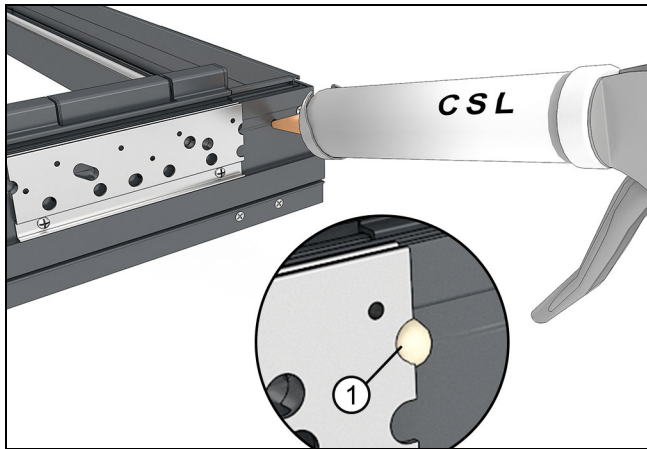

Figure 22 CSL 343 sealant
10. At the jamb inject the provided sealant into the hole closest to the corner until sealant comes out of the adjacent hole. See Figure 22.